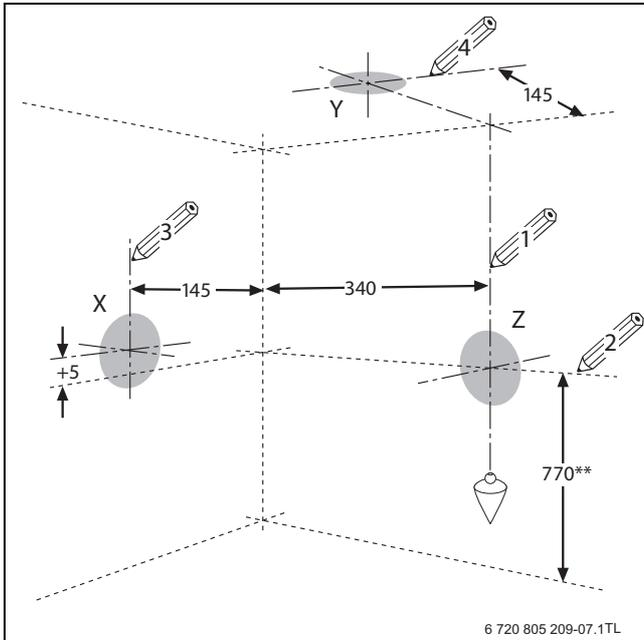

Fig. 31
- ▶ Follow figure 31 to mark the centre of the flue (1, & 2) for rear opening, (2 & 3) for side opening or (1 & 4) for top opening.